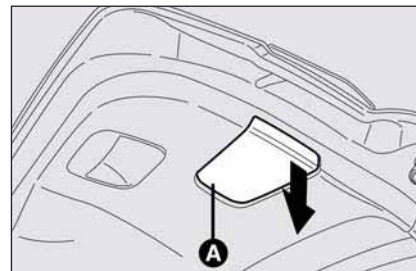
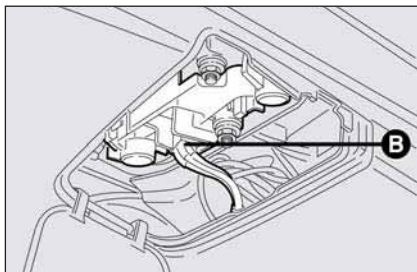

fig. 29
fig. 30
- push down cover **A**-fig. 29 and remove electric connector **B**-fig. 30;